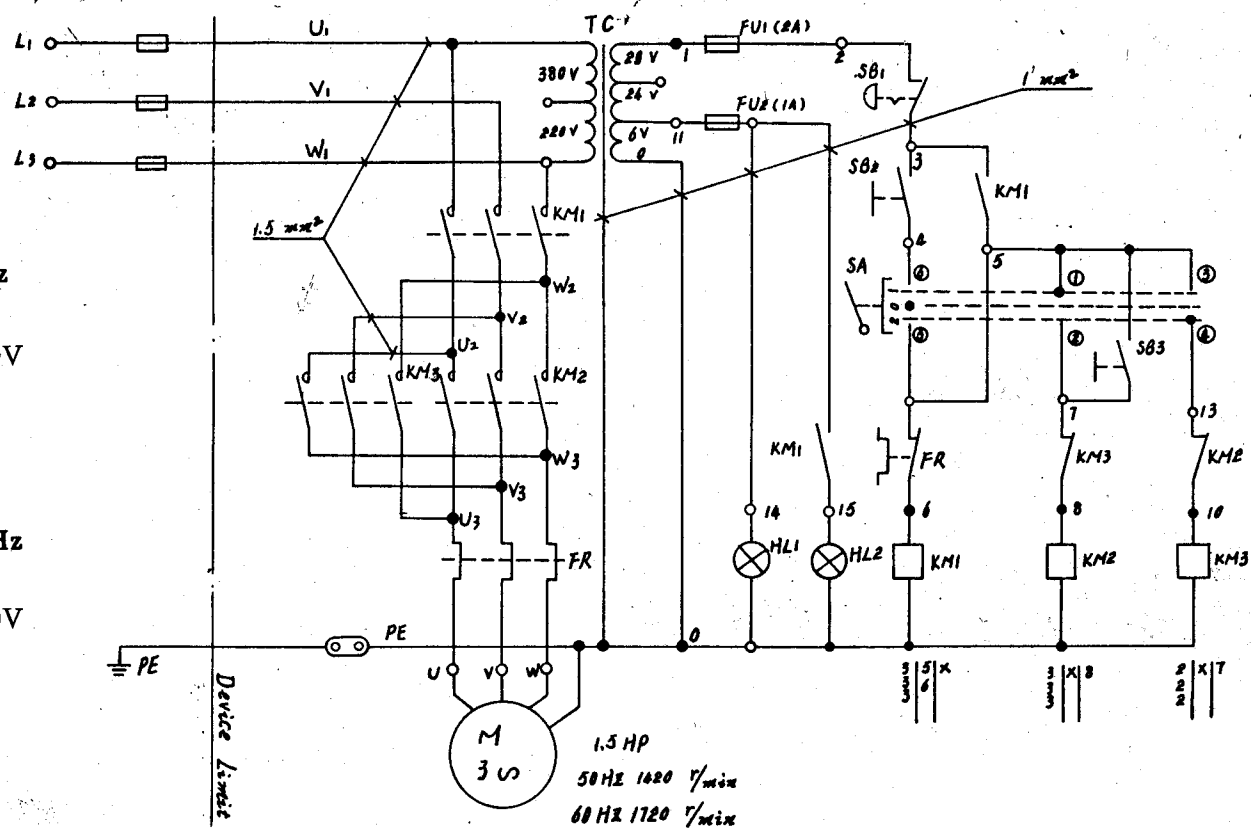

Fig. 7 Wiring Diagram For 3 Phase
- * The standard lathe are wired for 220v/380v 3 phase 60 & 50 Cycle [See Fig. 7] or for 110v/220v 1 phase 60 & 50 cycle (See Fig.10) according to order. For connection to motor (1 phase. 110v/220v). please see Fig.14 transferring connection diagram.